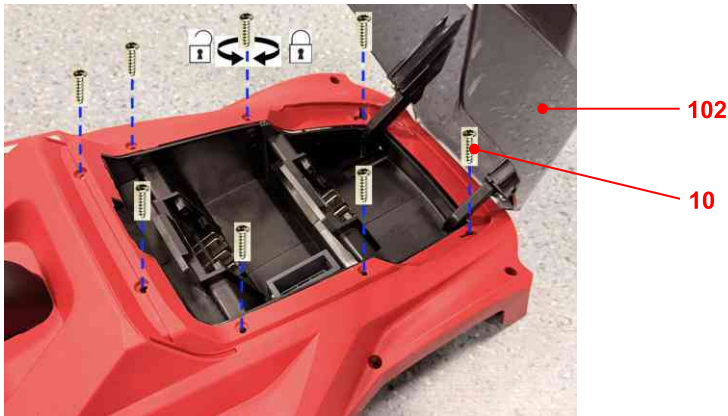

Fig. 10
3. Open the transparent cover (102) and hold it in position. Remove the 8 self-tapping screws ST4.2*16-F (10) using a Philips #2 screwdriver (Fig. 10).